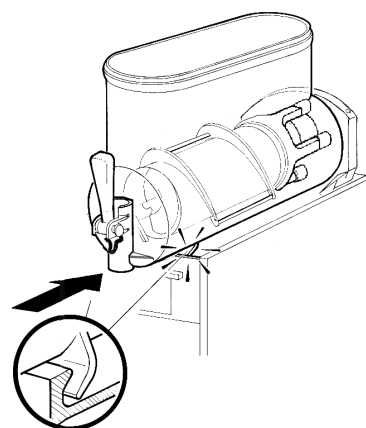

figure 15
- 7 - Push the bowl towards the rear wall of the unit until it fits snugly around the gasket and its front fastening hooks are properly engaged (see figure 15).